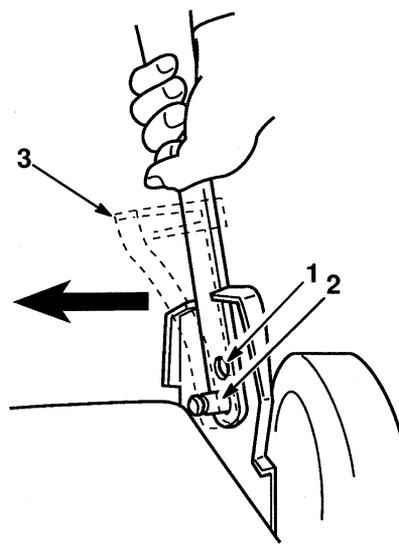

Figure 2
The handle has two height positions — high and low (Fig. 2). Select a handle height position that is most comfortable for you.
1. Slide cable anchor (Fig. 2) on handle to align hole and locate over pin inside handle bracket.